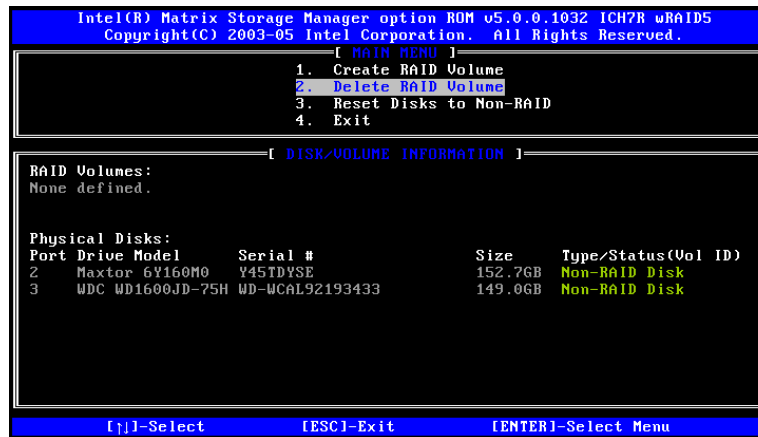

Figure E-11: Non-RAID Disks
Step 4: Non-RAID Disks. After deleting the RAID volume, the disks belonging to the volume will be shown as non-RAID disks. See **Figure E-11**.